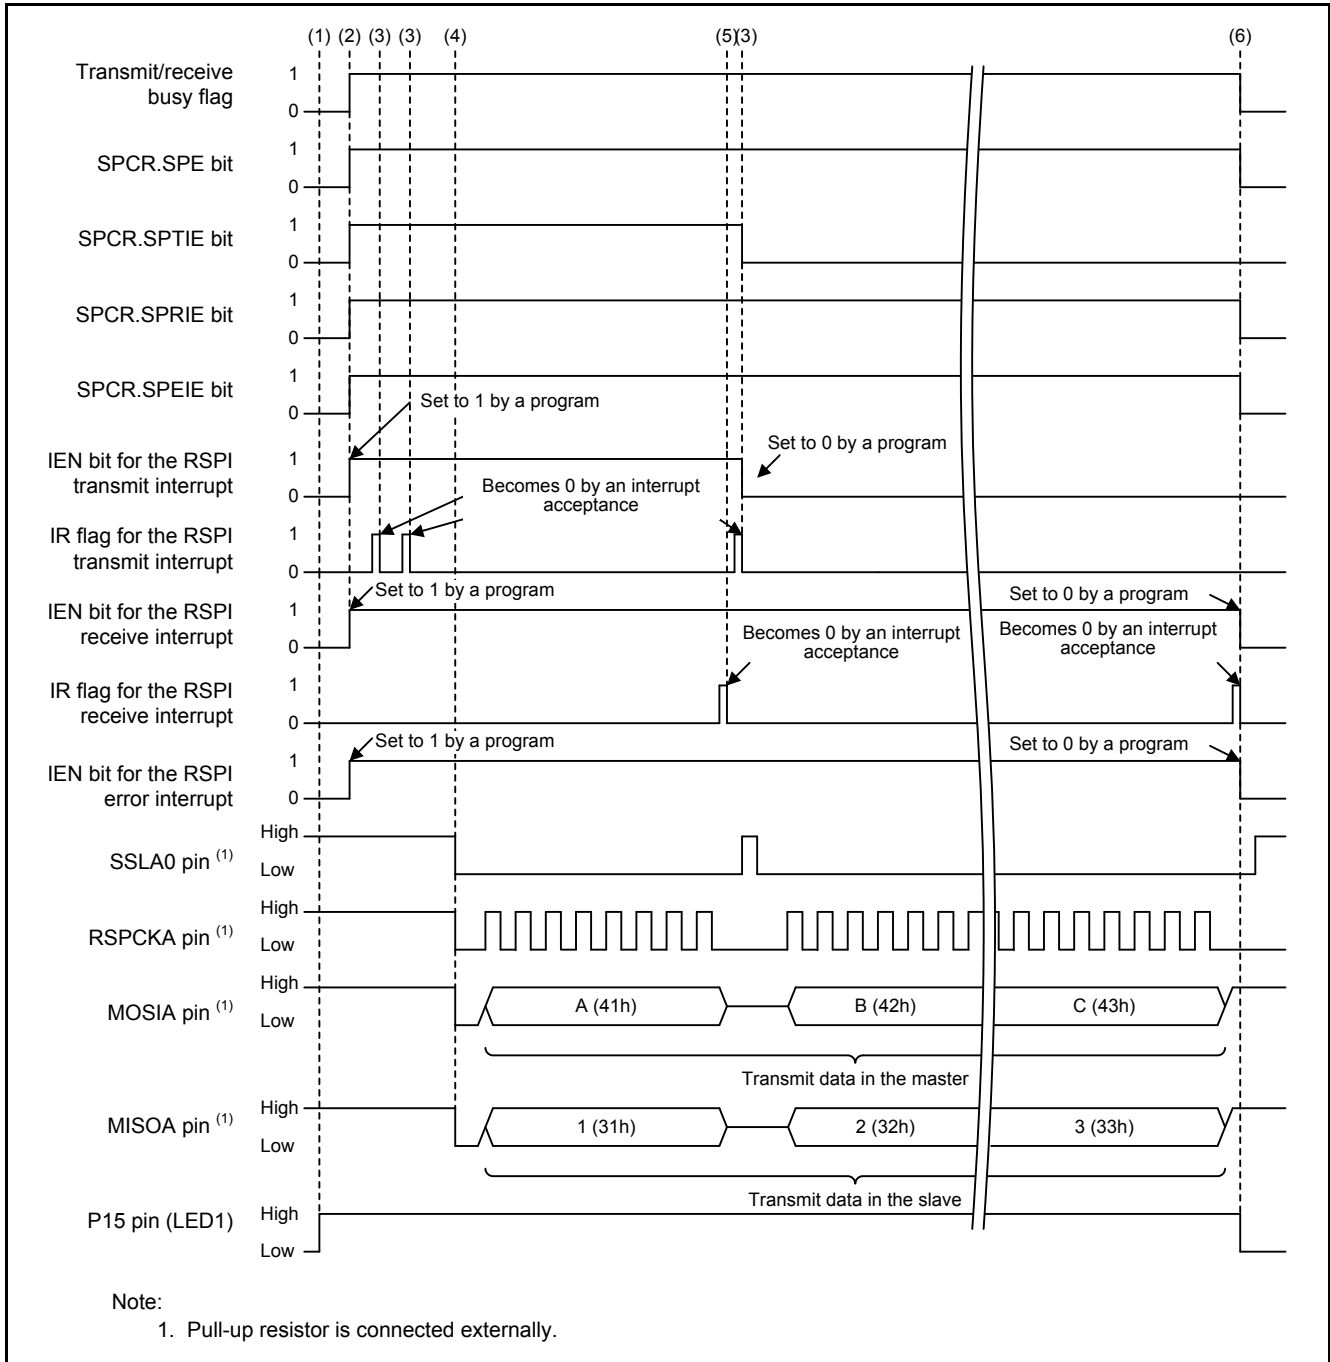

Figure 7.2 Timing of Serial Communication with SPI Operation (Four-Wire Method)
Figure 7.2 shows the Timing of Serial Communication with SPI Operation (Four-Wire Method) and (1) to (6) in the figures correspond to numbers in the operation descriptions below.
- (1) Initialization